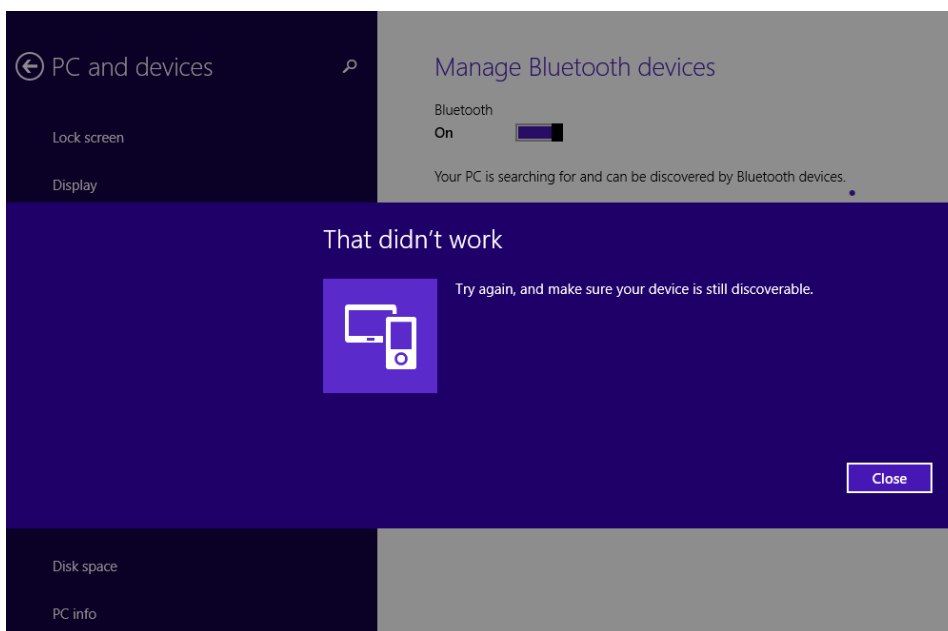

Figure 12 Error message
Step 3: If the following error message appears, shown as Figure 12, click Close.